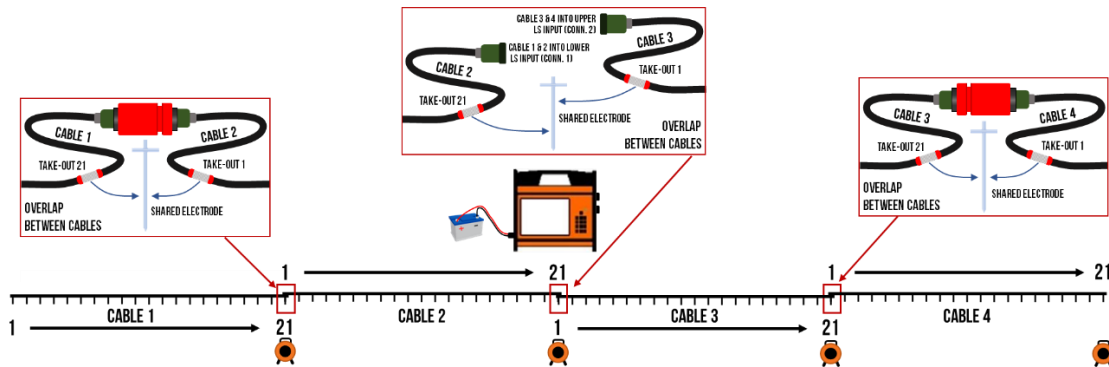

Figure 119 Schematic of an 81 electrode, 4-cable set-up; note the 21 take-out cables use an overlap between cables, where they share a single electrode
- If cables are used at their full take-out spacing, lay out the cables first, overlapping last and first take-outs (only done with 21 take-out cables, see Figure 119), then use the take-outs to position electrodes.